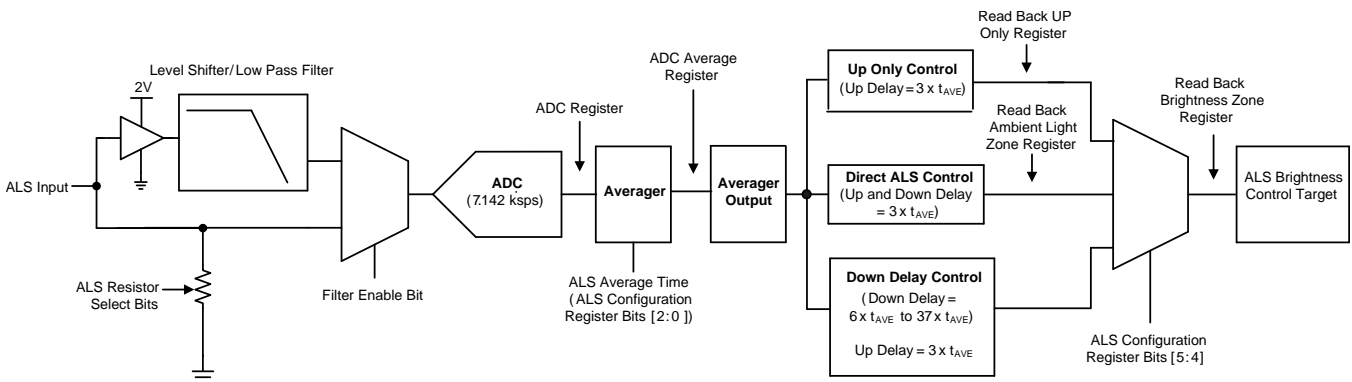
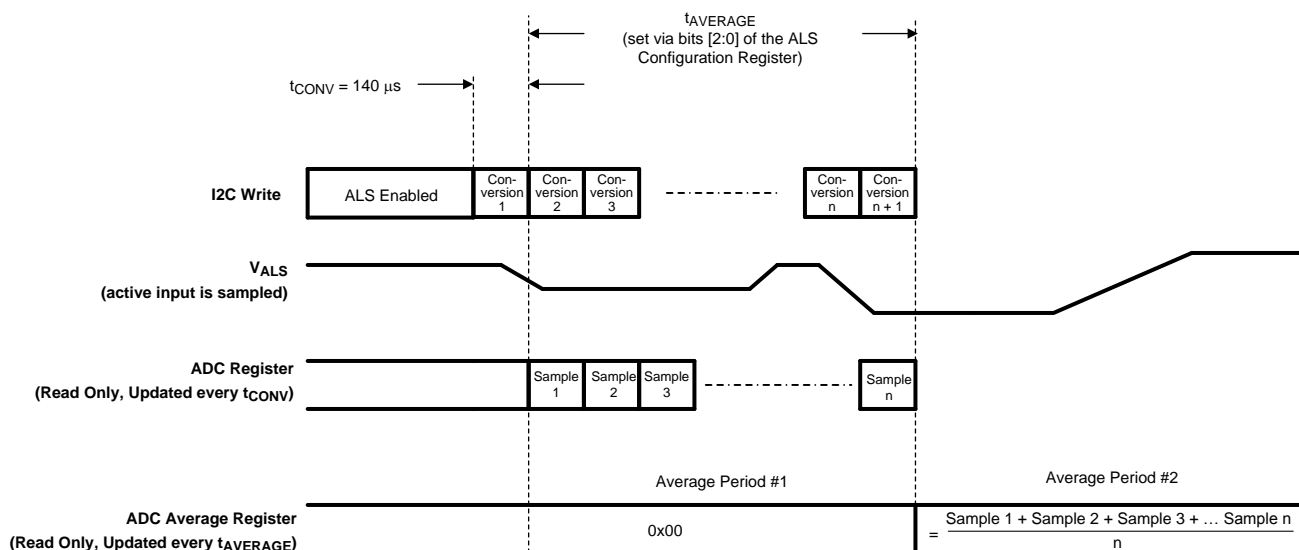

Figure 27. ALS Block Diagram
Figure 28. ADC Timing
Figure 27 shows the functional block diagram of the LM3533 device ALS interface.
The LM3533 digitizes the ALS voltage using an internal 8-bit ADC. The ADC is active as long as the ALS enable bit is set. Once set, the ADC begins sampling and converting the voltage at the ALS input at 7.142 ksp/s. The ADC output can be read back via the ADC register (address 0x37). With the ALS enable bit set, the ADC register is updated every 140 μ s. Figure 28 details the timing of the ADC.
Once digitized the output of the ADC is sent into the ALS averager. The averager computes the average of the number of samples taken over the programmed average period. The ALS average times are set via bits [5:3] in the ALS Configuration Register. The output of the ALS average can be read back via the ADC Average register (address 0x38). With the ALS Enable bit set, the ADC Average register is updated after each average period (see Figure 28). After every average period the Averager Output stores the information for which brightness zone the ALS input voltage resides in (see Figure 27).
5. The Averager Output (see Figure 27) contains the zone that is determined from the most recent full average period.